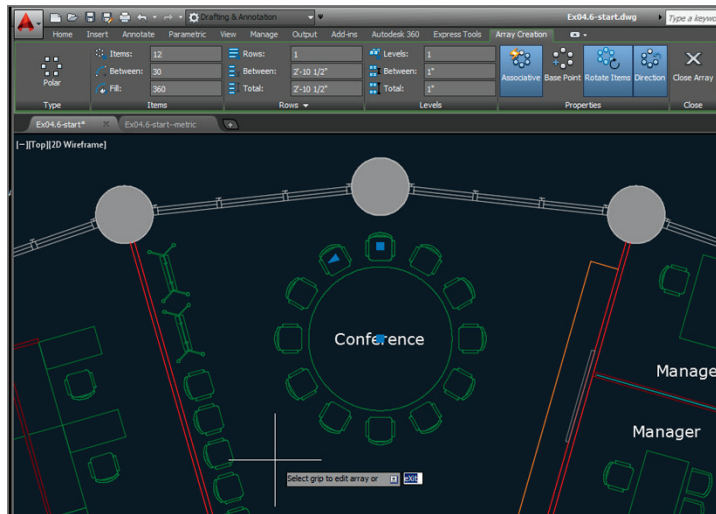

FIGURE 4.20 Creating a polar array
5. Type **12** in the Items text box on the ribbon and press Tab. Toggle on Associative, Rotate Items, and Direction if they are not already on in the Properties panel (see Figure 4.20). Click Close Array.